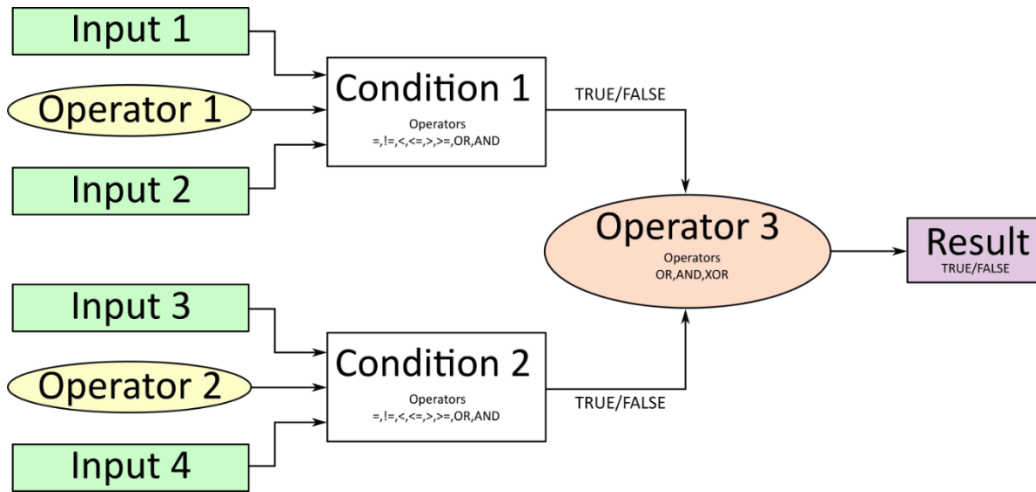

Figure 7: Conditional Block Diagram
This function block is a simple version of the Programmable Logic Function Block and compares up to four different input sources with different logical or relational operators. The result of each block can therefore only be true (1) or false (0). Figure 7 demonstrates the connections between all parameters.